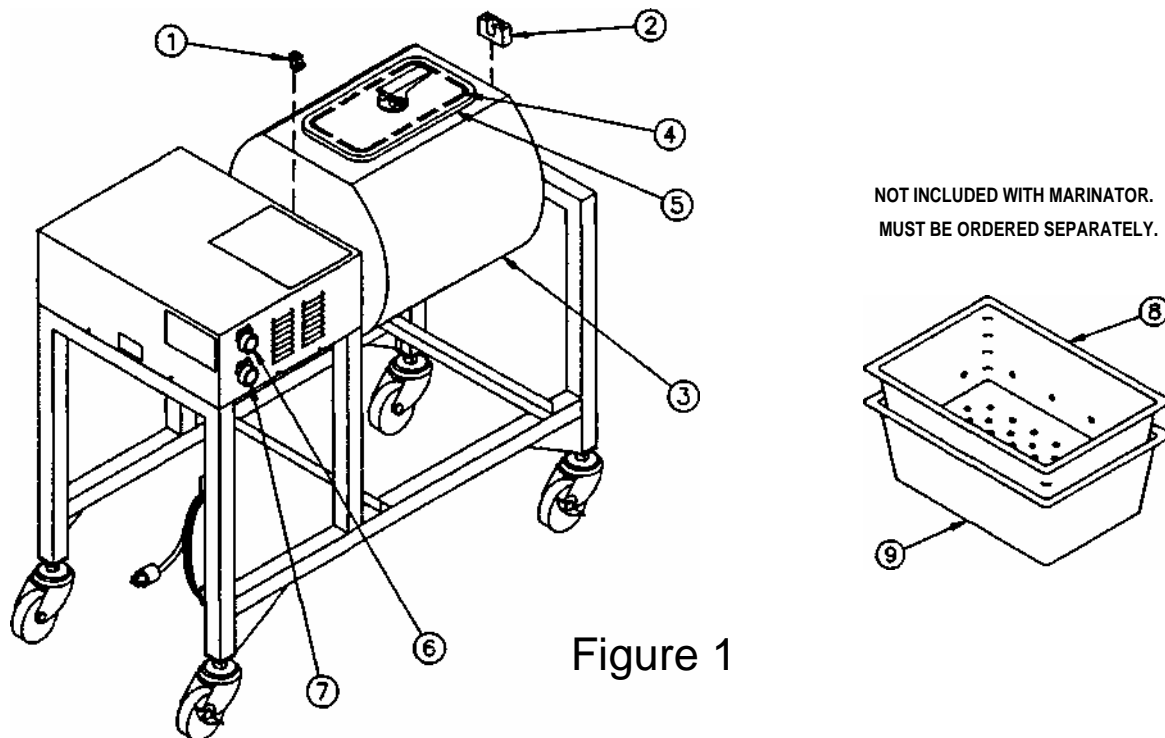

Figure 1
The FFM-1 Rotary Marinator is a rotating chicken marinator with a drum capacity of 80 pounds (chicken + marinade). The major components of the FFM-1 are shown in Figure 1 below. The Coupling Adapter (1) transmits torque and absorbs shock between the motor drive shaft and marination drum. The Support Block (2) supports and acts as a bearing for the right side of the marination drum. The Marination Drum (3) holds the chicken and marinade solution and is sealed with the Lid Gasket (4) and easily removable Lid Assembly (5). The Start Button (6) energizes the motor that rotates the drum. It also starts a timer that will automatically stop the drum rotation after 15 minutes. The Stop Button (7) provides a means to stop the drum rotation at any time. It is intended for emergency use only since it also resets the timer. After the drum has stopped, it is emptied into perforated and unperforated drain lugs (8 & 9) slid under the drum on the brackets provided. These drain lugs are not included with the marinator and must be ordered separately.